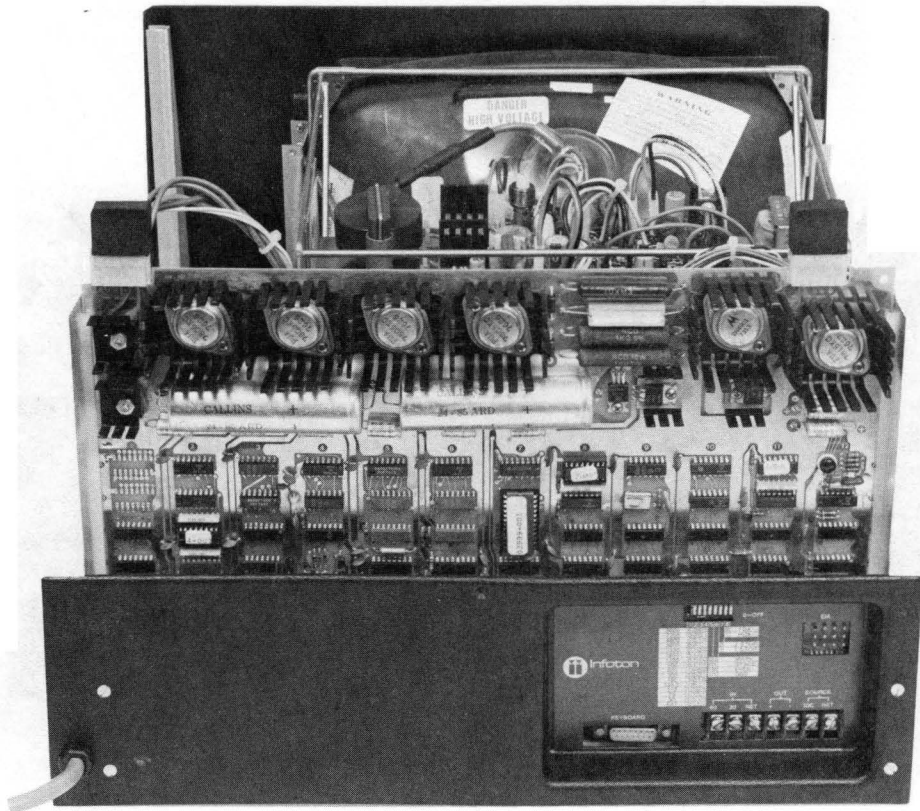

Figure 14 PCB Mounting
4.1.2 Removal of the Control Logic PCB (Figure 14)